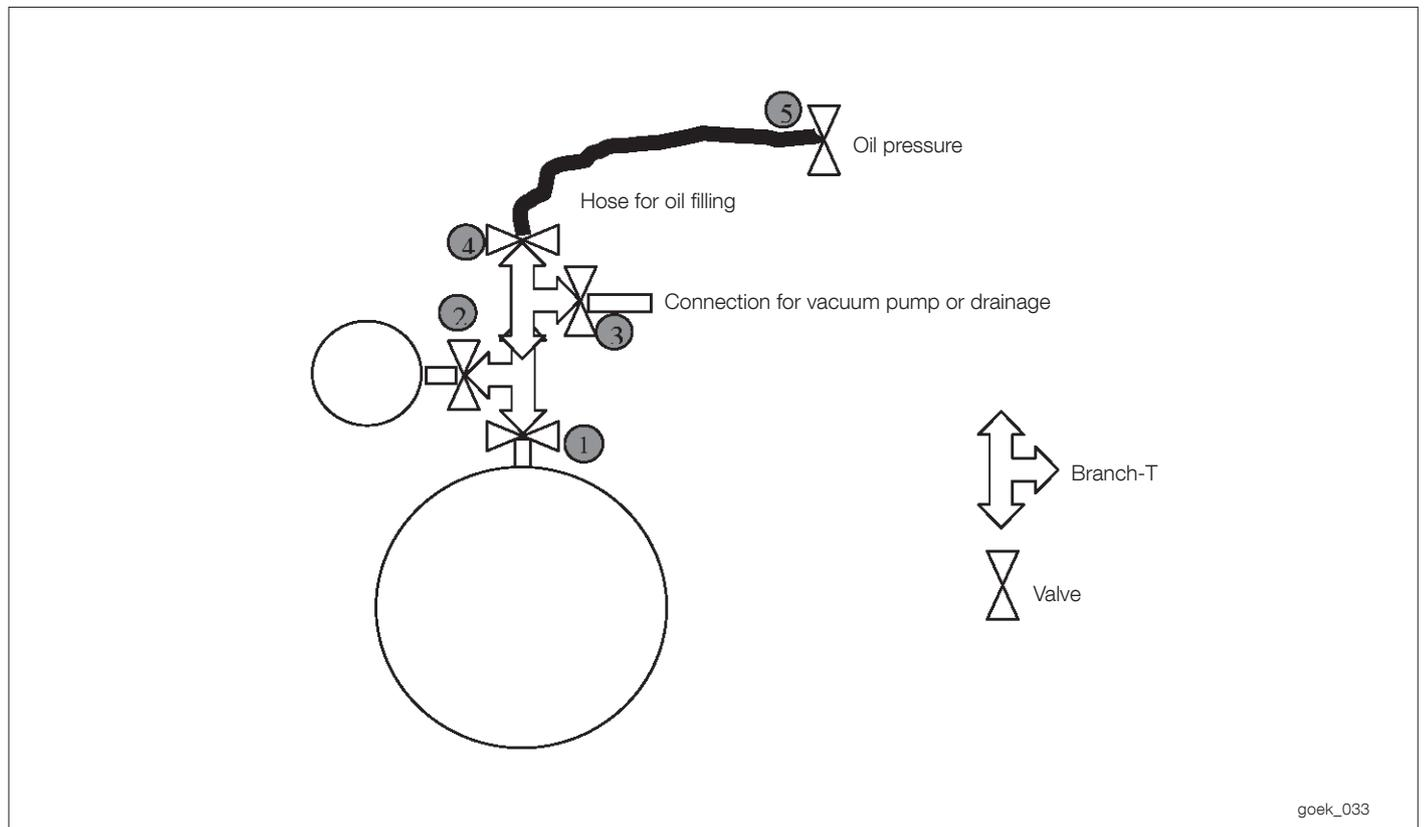

Fig. 22. Oil filling of bushing.
- 4 valves (valve 2-5 in Fig. 22)
- Make the connections according to Fig. 22.